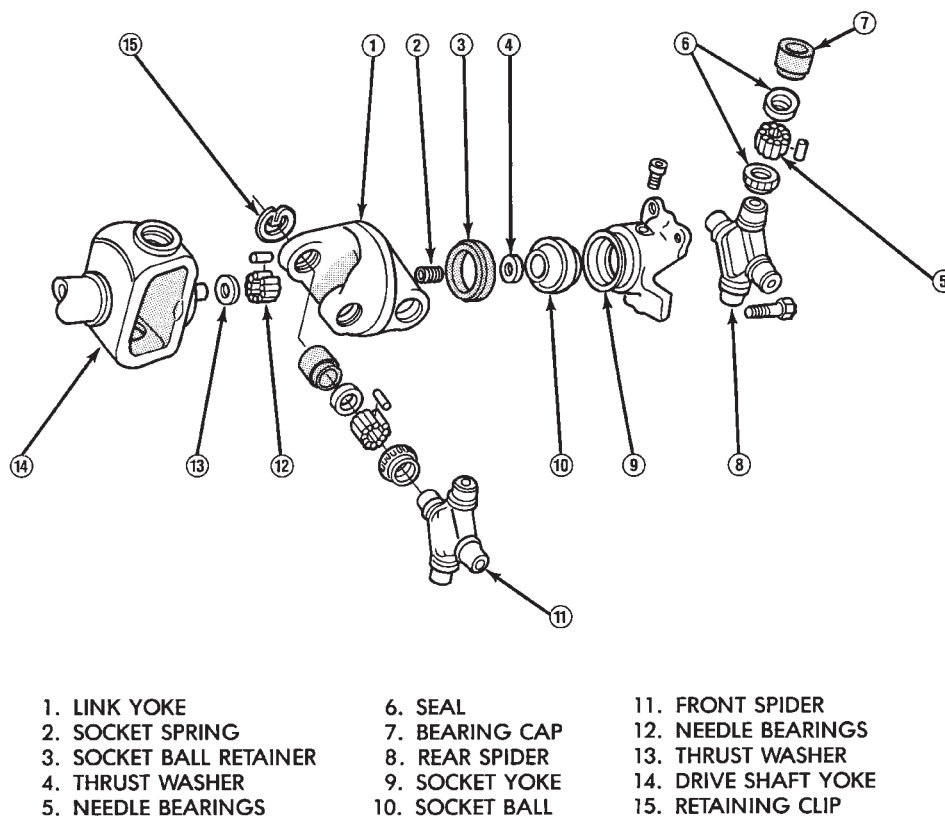

Fig. 4 Double Cardan (CV) Universal Joint
- Double cardan (CV) universal joint (Fig. 4).